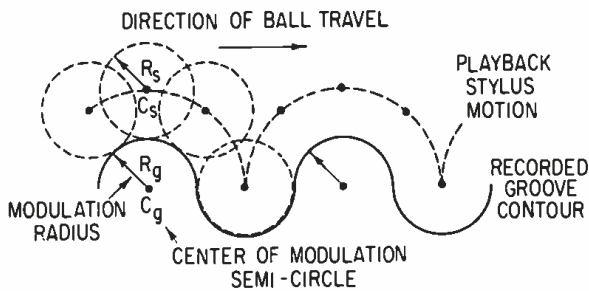
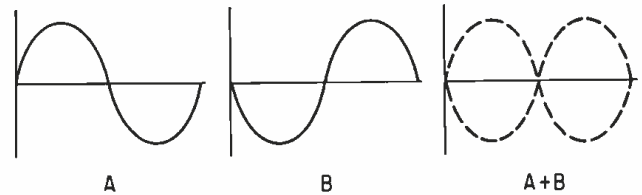

Figure 3. Semi-circle modulation where  $R_s = R_g$ .
Figure 2. If the two channels are 180° out of phase, their addition will result in cancellation.
An exact analysis of tracing distortion can become very complex, and since we are only interested here in the concept, we will make a simplifying assumption; let us assume that a sine wave is a series of semicircles alternating convex and concave. FIGURE 3 shows a modulated groove comprised of semicircles with  $R_g$  representing the radius of the modulation, and the playback stylus is shown with  $R_s$  representing its radius. We will make  $R_g = R_s$ , a condition that can occur frequently in actual playback conditions. The playback stylus rolls along the groove in the direction of the arrow, and the dotted line represents the successive positions of the center of the playback stylus ball. These positions in turn are represented by the dotted circles. When the ball travels on the convex portion of the curve, the ball center describes an arc that is a longer distance than the corresponding groove contour. When the ball travels on the concave portion of the curve, the ball center describes an arc that is a shorter distance than the corresponding groove contour. In fact when the playback ball is centered in the convex segment the centers of the modulation and playback balls coincide and the playback ball motion goes to zero for an instant. The resulting pickup output is a distorted version of the groove contour. The tracing distortion thus generated will consist mainly of second and third harmonics. FIGURE 4 displays the fundamental, second, and third harmonics (in proportional magnitudes) derived from the playback of an actual sine wave. By combining all three wave forms, a composite wave form is derived that reflects the tracing distortion process described above.
cancellation effect and the signals subtract as shown in FIGURE 2.
It can be seen in FIGURE 3 that a slight azimuth misalignment can result in a phase shift of the center information. It should be noted that this can be caused by either the record head or the playback head in a recording system. It should also be noted that the shift is not 180° as described in FIGURE 2. Therefore a reversal of the phase of one channel with respect to the other will not eliminate this problem. The shift can be slight enough so that when the product is auditioned in stereo it is not noticeable. However, when the product is summed to derive the mono, this shift becomes a much more critical matter. When added the signals will add during some portions of the wave and subtract during others.
Figure 3. Tape head alignment all along the way plays a profound effect on the final result. In (A) the results of proper attention is shown in two channels that are in perfect phase relationship. At (B) is an exaggerated view of what happens when mis-alignment allows the phase relationship of one channel to lag the other.